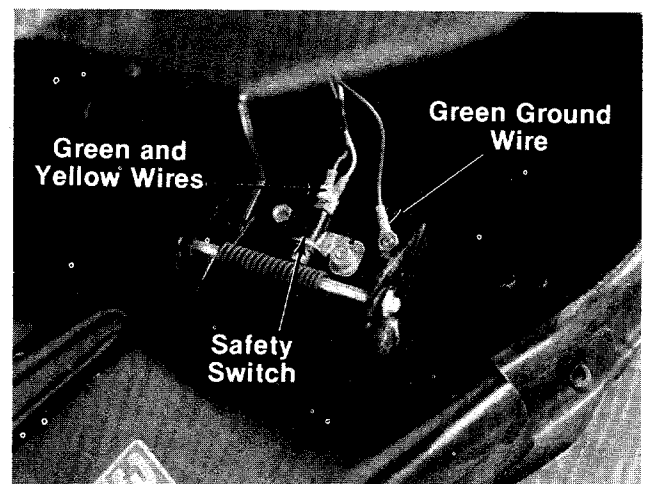

FIGURE 35.
3. Unplug the green and yellow wire at the safety switch on the chute side of deck. Remove the green ground wire using a 7/16" wrench. See figure 35.